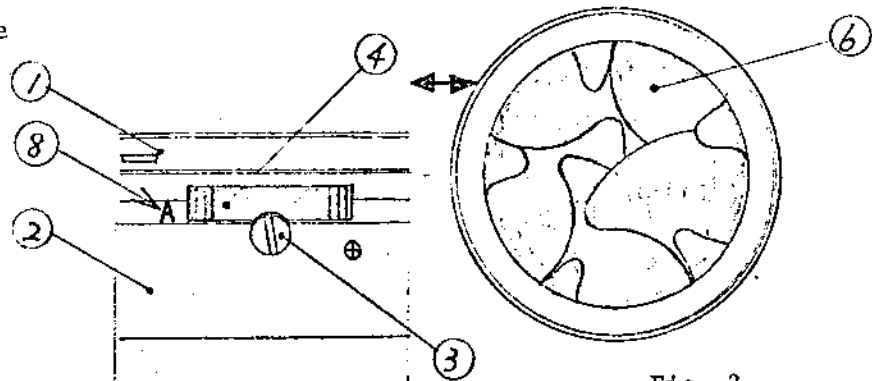

Fig. 2
- (2) When the T change-over lever (4) is set at the position of Fig. 2, the shutter vane (6) of Fig. (2) must be lowered. That is, the condition of Fig. 2.
- (3) T change-over lever (4) must be smooth in operation, and click movement must be made.
- (4) Change-over of inspection items from 1 to 2 must be smooth and the operation of shutter vane (6) must be swift and stable at the time.